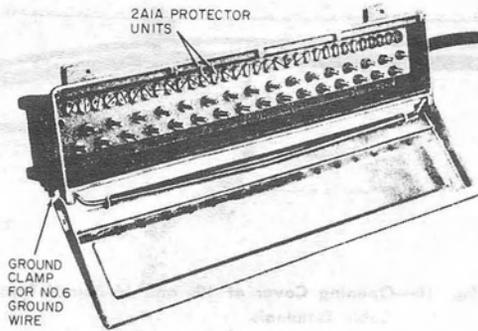

Fig. 5—NH16 Cable Terminal
2.03 **NH-type cable terminals** are protected type terminals available in either 16- or 25-pair sizes (Fig. 5 and 6). They are similar to the NC-type terminals except as follows: